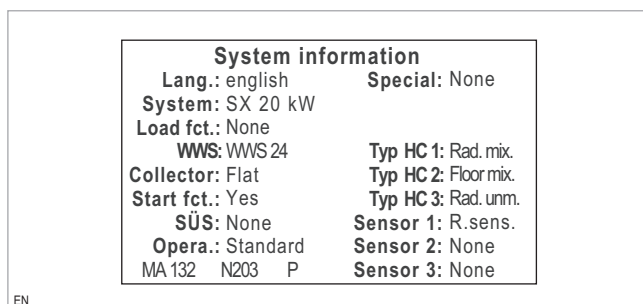

Fig. 8: The system information menu
1. Enter the setting parameters in the initialisation report in the → *operating instructions for the installer (H36/L35/L36/P31/P33)* in the **"SYSTEM INFORMATION"** menu (see → *fig. 8, page 5*).
All initialised system components are listed (see → fig. 8, page 5).